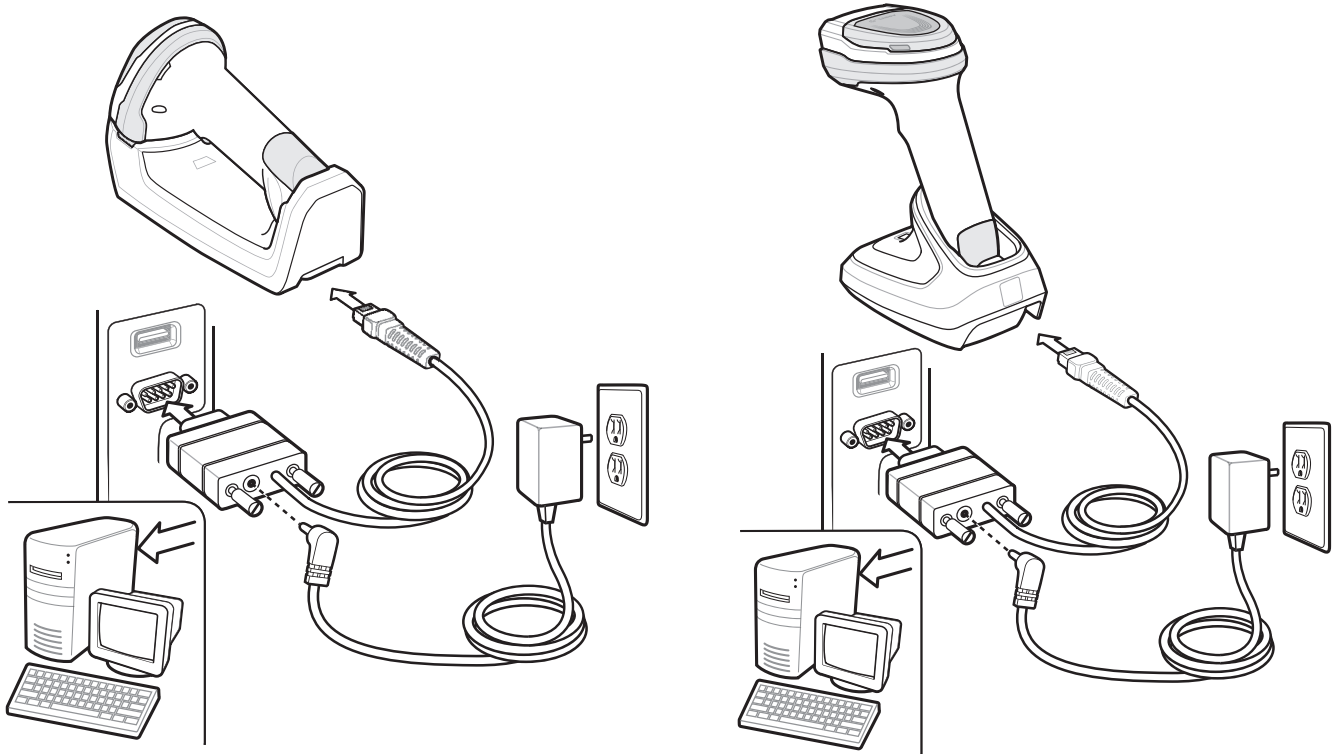

Figure 10-1 *RS-232 Direct Connection*
- ✓ **NOTE** Interface cables vary depending on configuration. The connectors illustrated in Figure 10-1 are examples only. The connectors may be different from those illustrated, but the steps to connect the cradle remain the same.